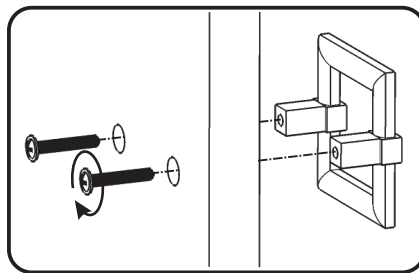

Figure 7
Attach Handles to Doors (H) and (I) with Machine Screws. (See Figure 7)